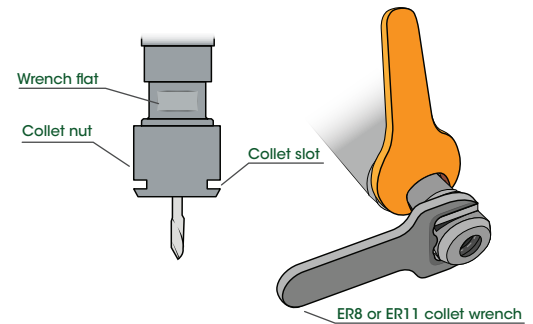

Figure 9: Correct insertion of both the wrench and the ER8 or ER11 collet wrench to remove or secure the collet nut.
2. Take the ER8 or ER11 collet wrench included with your Air Turbine Spindle®, and apply it on the collet slot as shown in **figure 9**. Turn the wrench counterclockwise to release the current cutting tool.
7. Insert the collet wrench into the collet nut and turn it clockwise as shown in **figure 9** to ensure the new collet and cutting tool is firmly held.